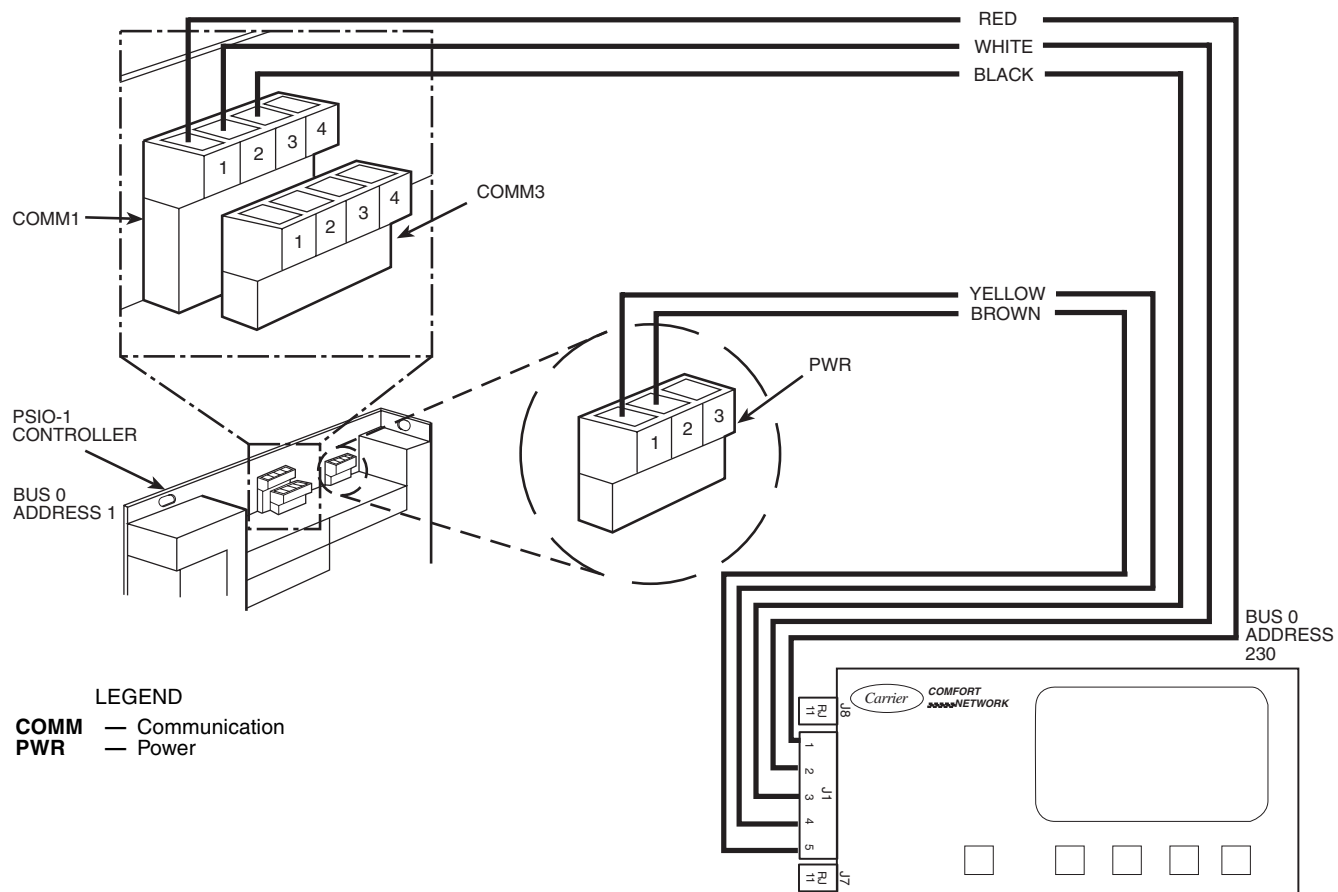

Fig. 5 — Connecting Remote Enhanced Display to PSIO-1 (30GX,HX PSIO Based Units)
- Attach field-supplied conduit connector and conduit from the remote enhanced display box to the top (30HX) or bottom (30GX) of the chiller control box. Route the power leads and the COMM cable inside the chiller control box and down to the PSIO-1 controller. See Fig. 5.
Attach the communication cable wires to the PSIO-1 communication (COMM1) connector, according to the connection diagram in Fig. 5 and list in Table 6. Connect the red wire from the enhanced display to pin no. 1 on the COMM1 connector; connect the white wire to pin no. 2, and the black wire to pin no. 3. Ensure that the existing wires in the COMM1 connector are reinstalled correctly.